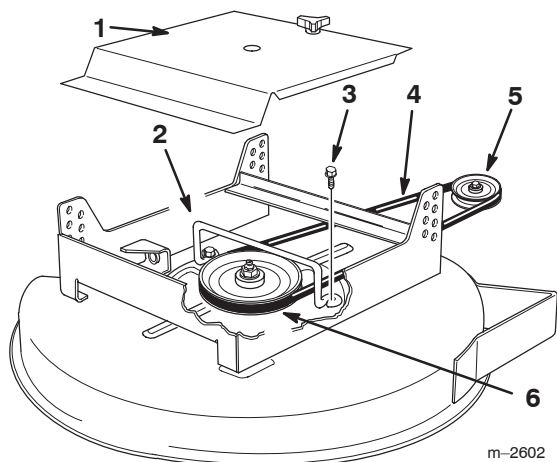

Figure 40
- Grease the fitting on the spindle pulley bearing (Fig. 40).
2. Loosen the hand knob holding the mower cover to the top of the mower and remove the cover (Fig. 40).
3. Remove the two flange-head bolts holding the belt guide to the top of the mower and remove the belt guide (Fig. 40).
9. Install the mower cover onto the cutting unit, then tighten the hand knob (Fig. 40).